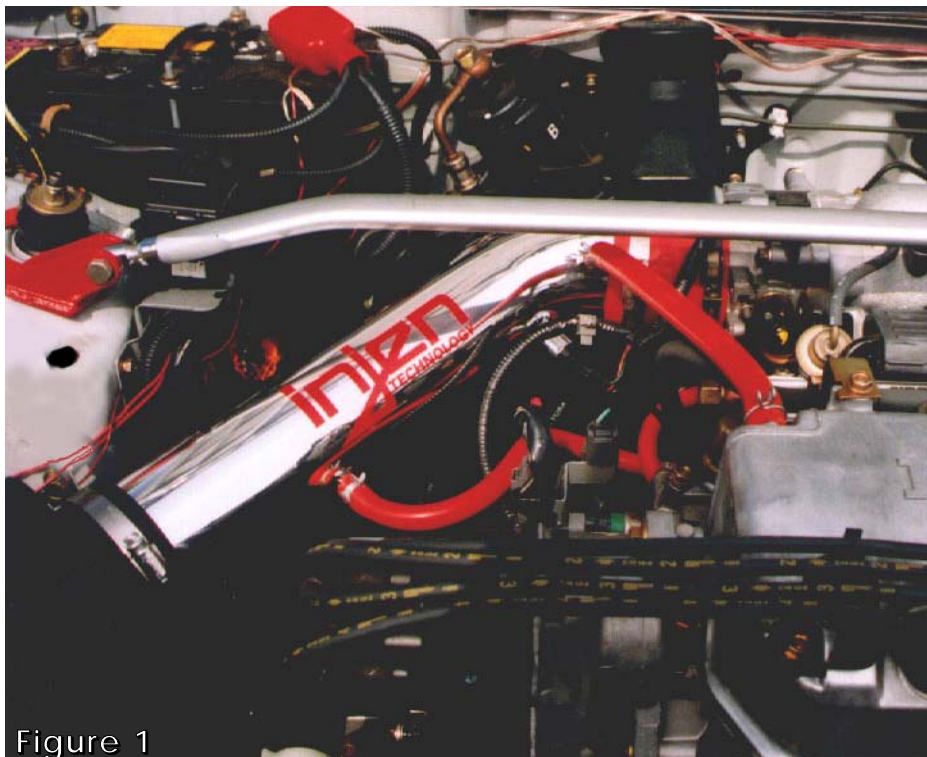

Figure 1
- 7- Take the 12" - 10mm vacuum hose and attach one the 3/8" nipple near the bend on the intake. Press the other end onto the port on the valve cover as seen in figures 1 and 6.
- 9- Take the 3" Injen red filter and press it into the front end of the intake opening. See fig. 1